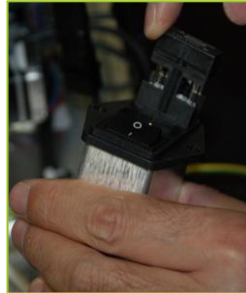

Figure 12 Illustration of the fuse extraction and replacement operation
2. Extract the fuse holder and replace it (Figure 12).